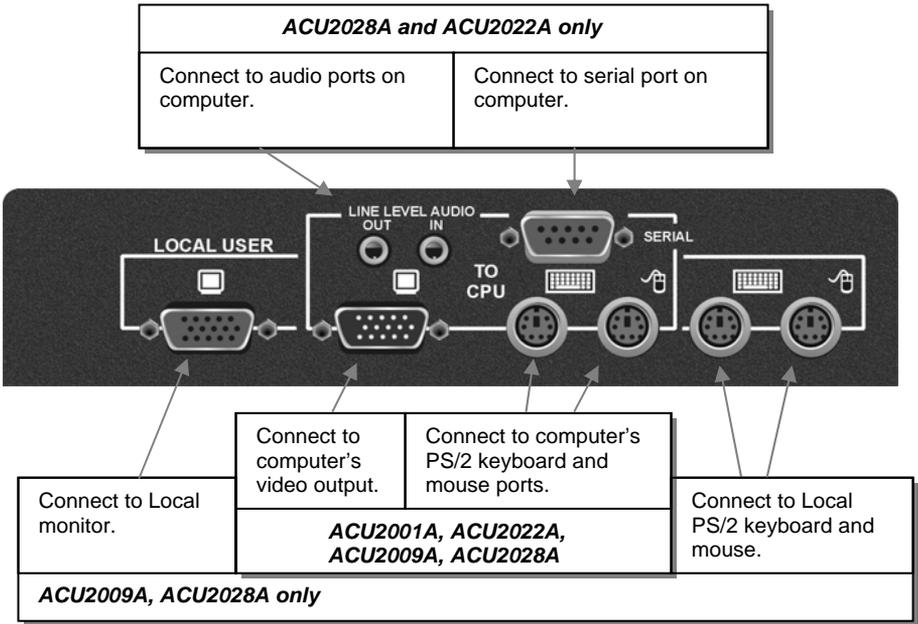
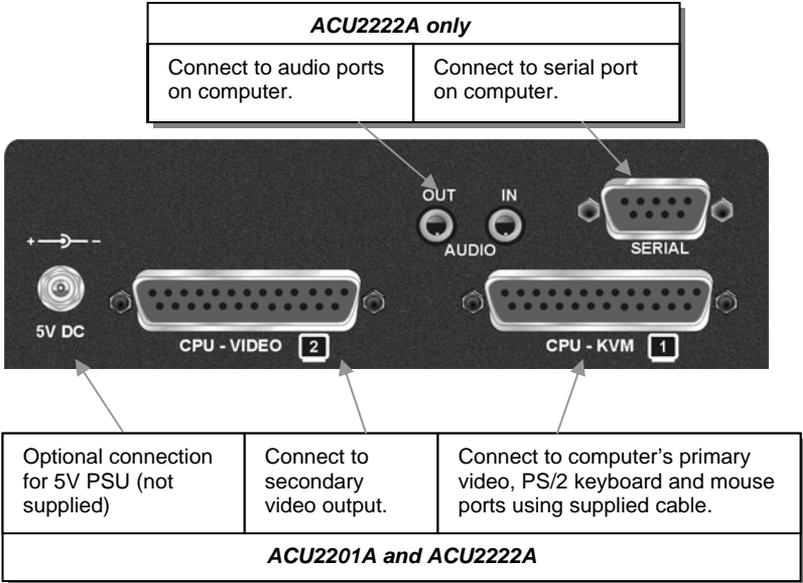

Figure 6
Figure 7
2. Using the supplied CPU KVM cable(s), connect the keyboard, monitor(s) and mouse connectors on the computer (or KVM switch) to the corresponding connectors on the Local Unit as shown in Figure 6 for single video units, or Figure 7 for dual video units. Ensure that you attach the keyboard and mouse connectors to the correct ports. The keyboard connector is purple; the mouse connector is green.